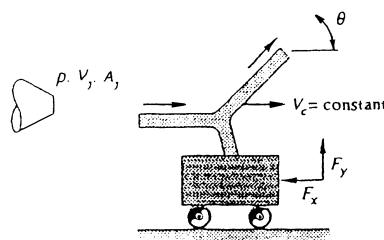

Fig. P3.55
3.55 In Fig. P3.55 the jet strikes a vane which moves to the right at constant velocity V_c on a frictionless cart. Compute (a) the force F_x required to restrain the cart and (b) the power P delivered to the cart. Also find the cart velocity for which (c) the force F_x is a maximum and (d) the power P is a maximum.